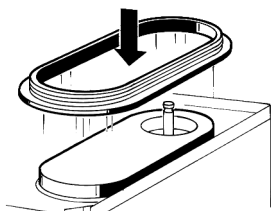

figure 8
- 4 Fit the bowl gasket to the evaporator. Note: the largest brim of the gasket must face against the drip plate (see figure 8).